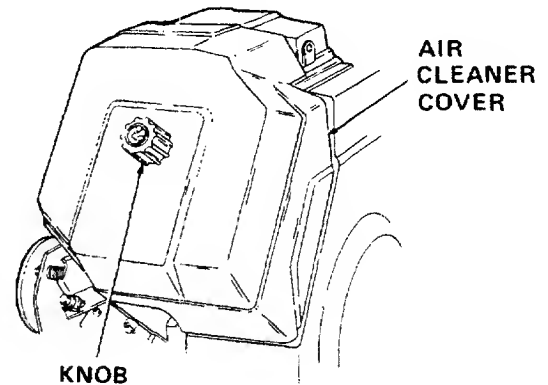

Figure 24. Air Cleaner Housing Components
1. Remove the air cleaner cover retaining knob, air cleaner cover and paper element with foam pre-cleaner. (See Figure 24.)
1. Remove the air cleaner cover retaining knob, air cleaner cover and paper element with foam precleaner. (See Figure 24.)